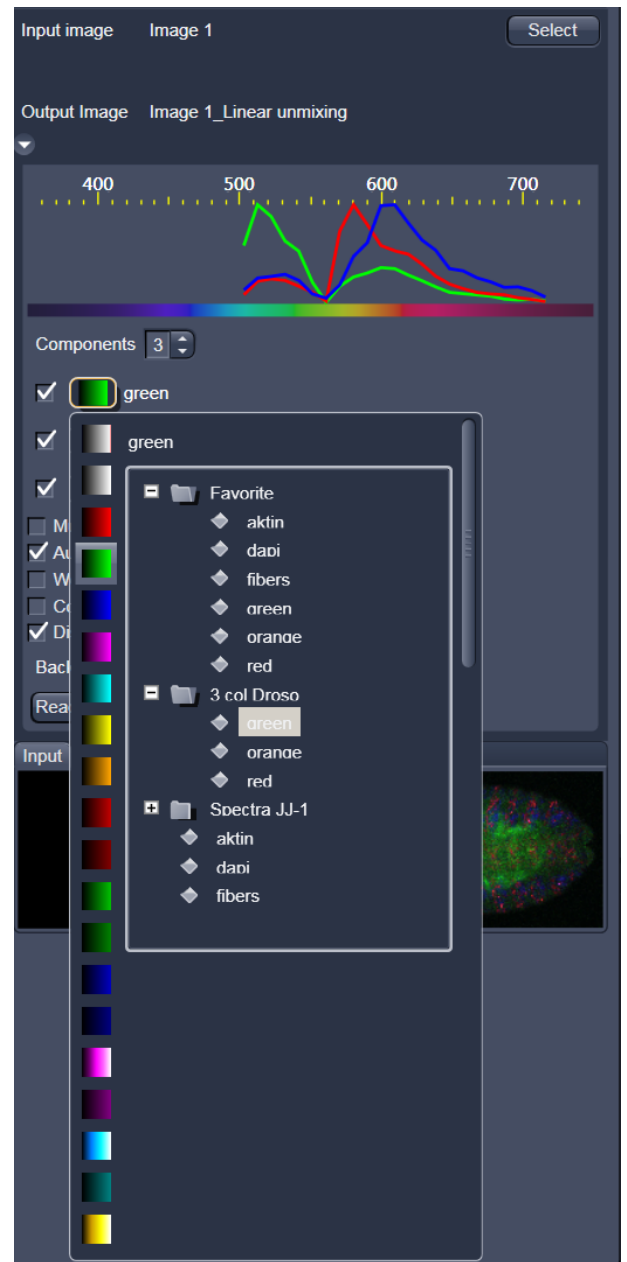

Fig. 128 Linear Unmixing: Spectra and LUT assignment
- Select the sample-specific fluorescence dye reference spectra from the **Spectra Database** (Fig. 128).
- Assign appropriate colors to the fluorescence channels by clicking on the color flag and choose from the available lookup tables (LUTs) (Fig. 128).